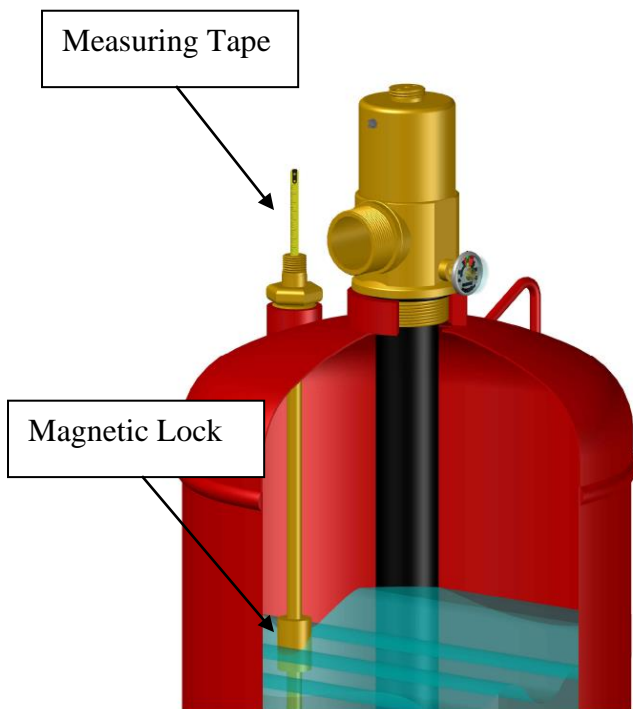
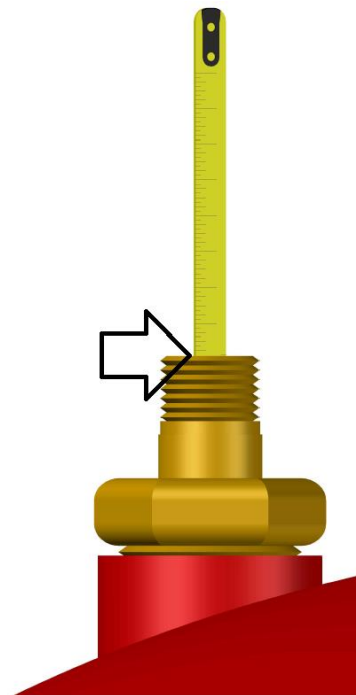

Figure 56: Liquid Level Tape and Lock
Figure 57: Liquid Level Reading
- If the cylinder comes with an inbuilt liquid level indicator, removing the cylinder from the fire suppression system for weighing is not required. Remove protective cap from liquid level indicator. Measure cylinder temperature or ambient temperature only if cylinder has been stored at least 24 hours to obtain accurate reading. Lift the measuring tape to approximately 2 inches below the expected level (Refer to Appendix D). Then slowly pulled the tape until a magnetic interlock is felt. (Figure 56). Read the measurement on the tape at eye level height (Figure 57) and record the measurement.